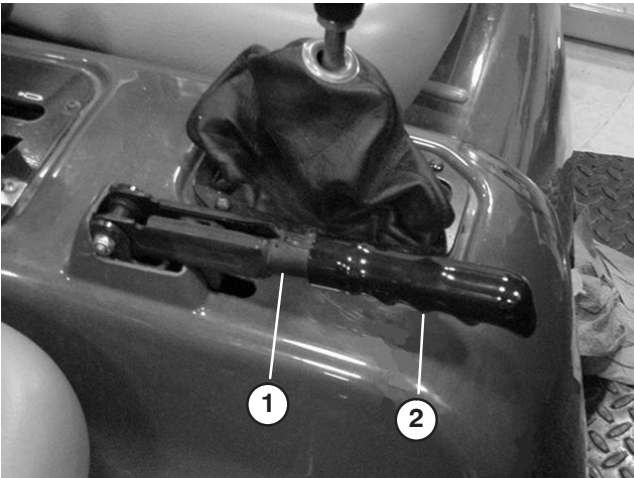

Figure 66
1. Remove rubber grip from parking brake lever (Fig. 66)